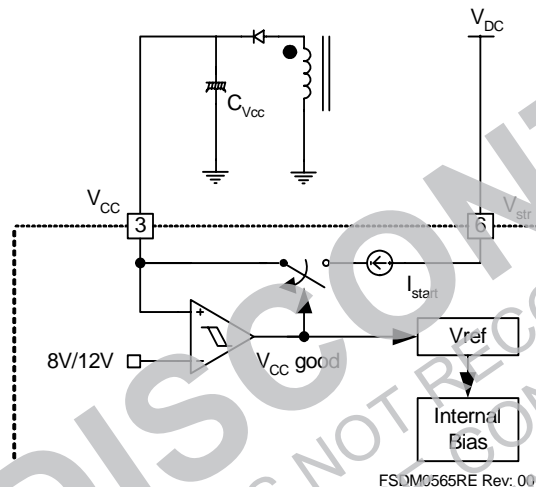

Figure 17. Internal Start-up Circuit
1. Start-up: In previous generations of Power Switches the V_{CC} pin had an external start-up resistor to the DC input voltage line. In this generation, the start-up resistor is replaced by an internal high-voltage current source. At start-up, the internal high-voltage current source supplies the internal bias and charges the external capacitor (C_{VCC}) connected to the V_{CC} pin, as illustrated in Figure 17. When V_{CC} reaches 12V, the FSDM0x65RE begins switching and the internal high-voltage current source is disabled. The FSDM0x65RE continues normal switching operation and the power is supplied from the auxiliary transformer winding unless V_{CC} goes below the stop voltage of 8V.